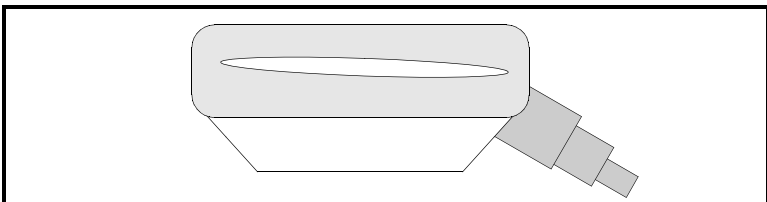

Figure 3-22: Couplant on Transducer Face
2. Apply a bead of CPL-16 couplant 6 mm (0.25 in.) wide on each transducer face. (See Figure 3-22 below.)